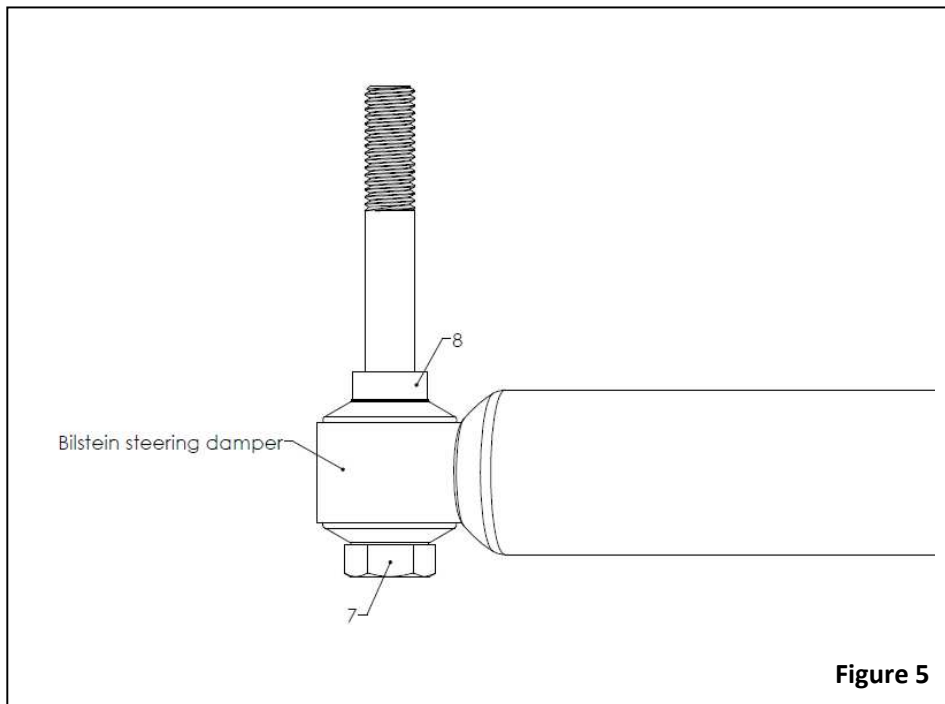

Figure 5
7. Slide the Hex Head Cap Screw (item #7) through the mount on the 2nd Bilstein steering damper (the one that hasn't been installed yet) as shown in Figure 5. Then slide the spacer (item #8) over the Hex Head Cap Screw (item #7) as shown in Figure 5.